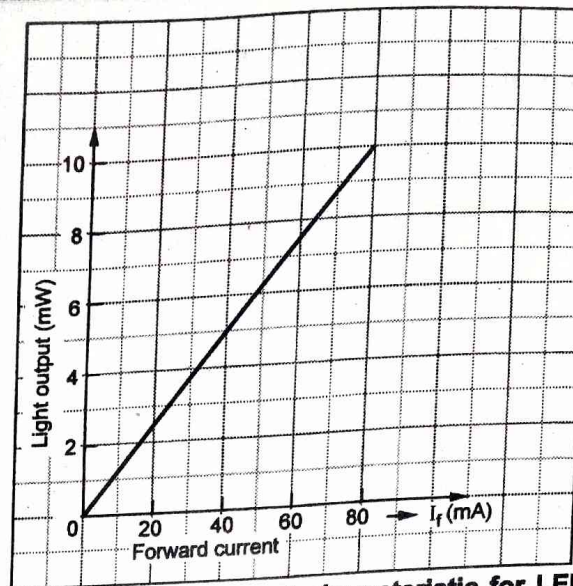

Fig. 3.1.3 Typical output characteristic for LED
- The amount of power output translated into light is directly proportional to the forward current  $I_f$ . More the forward current  $I_f$ , the greater is the output light. The graph of forward current and output light in mW is shown in the Fig. 3.1.3. This is called **output characteristics** for LED.